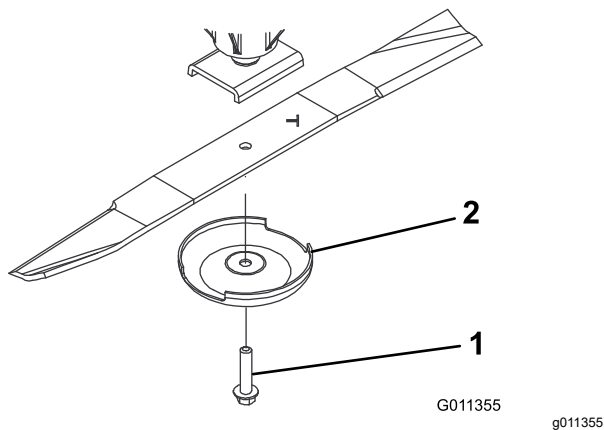

Figure 91
- Remove the blade bolt, anti-scalp cup, and blade from the spindle shaft (Figure 91).